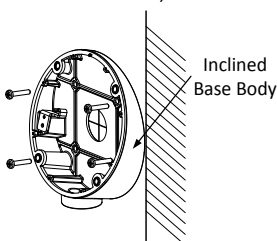

Figure 2-8 Fix the Inclined Base Body
5. Install the inclined base's body on the ceiling/wall with four PA4 × 25 screws, as shown in Figure 2-8.